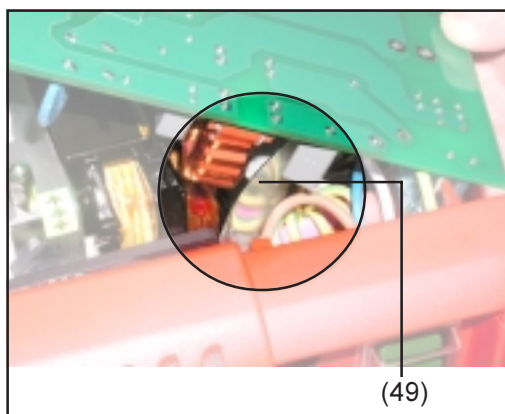

Fig. 12
Note! When fitting the LCA15 board in place, make sure that the air-guide film (49) is arranged as shown in Fig. 12.